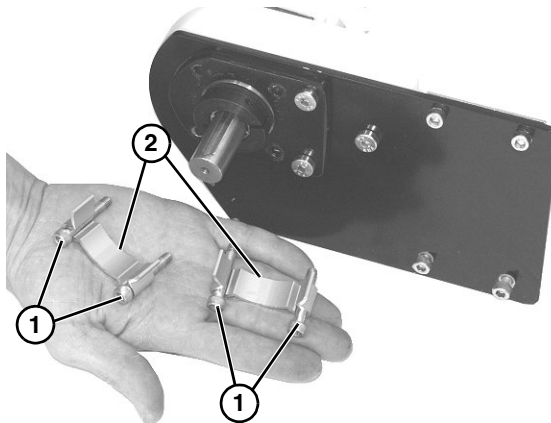

Figure 28
6. Remove four socket head screws (**Figure 28, item 1**) and drive guards (**Figure 28, item 2**).